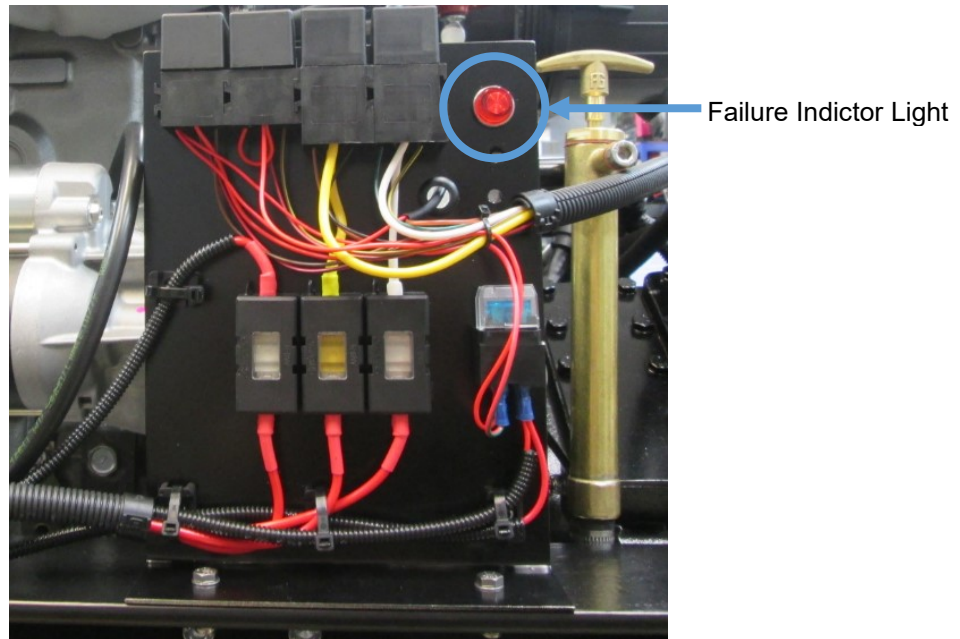

Figure 23: Failure Indicator Light
- If a fault occurs with the engine, the failure indicator light (**Figure 23**) will start flashing. The sequence in which the failure indicator light starts to flash will indicate the fault that has occurred.